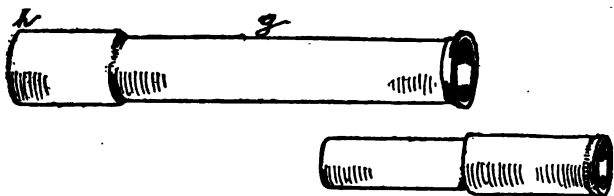

Fig. 14.—Plain Capped and Welted Ferrules.
3. Capped and welted ferrules are of the same form as the two mentioned above, but the caps are plain, as shown in Fig 14.
In all carefully made German silver ferrules the outside diameter of the female ferrule at *g* (Fig. 14) is identical with the inside diameter of the cap at *h*. This is a help to the